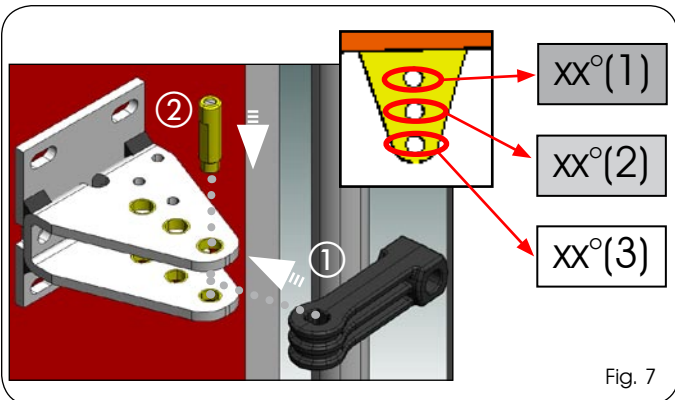

Fig. 7
2. By means of table 1 (see white or grey boxes) choose the fixing hole on the rear bracket and install the fork (Fig. 7 re. ①) by assembling it with the special pin supplied (Fig. 7 re. ②).